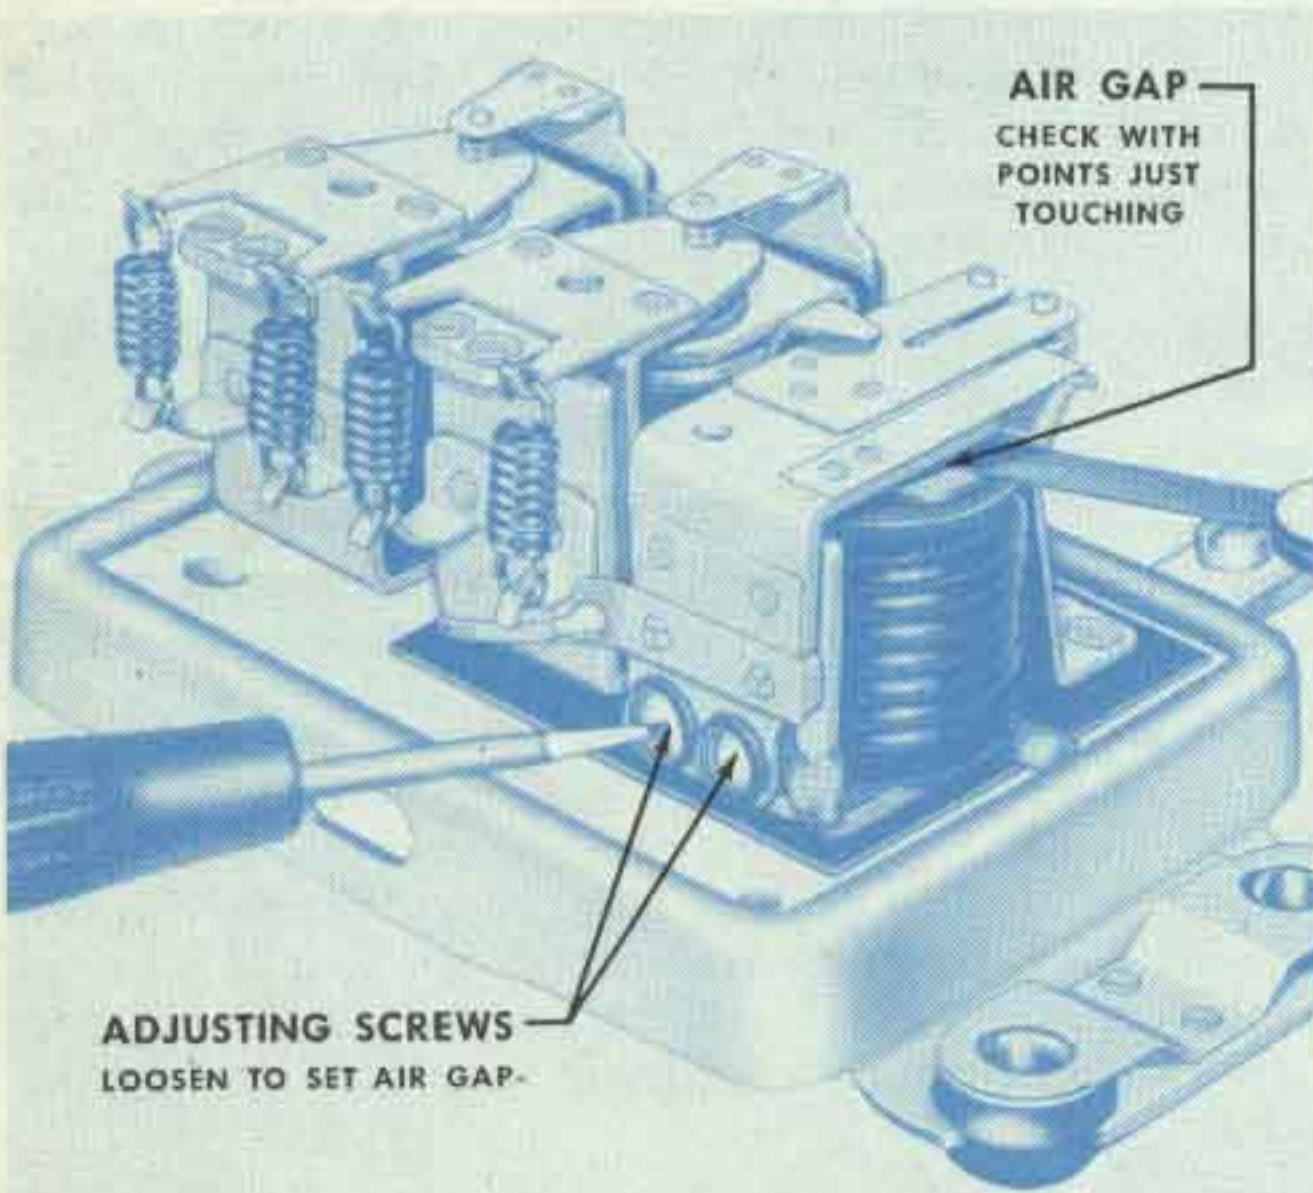

Figure 6—Cutout relay air gap check and adjustment. Battery must be disconnected when this check is made.
**AIR GAP**—Place fingers on armature directly above core and move armature down until points just close and then measure air gap between armature and center of core (Fig. 6). On multiple contact point relays, make sure that all points